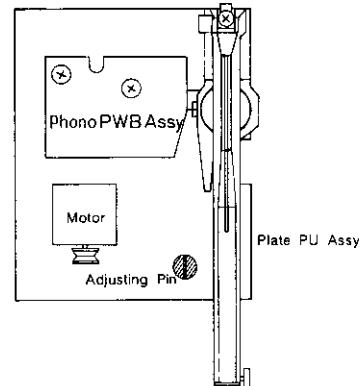

Figure 27
1. Remove the Cabinet top according to DISASSEMBLY INSTRUCTIONS (B) (page 3).
5. Turn the adjusting pin described in Fig. 27 so that the stylus set-down position will be counted between 15 and 17 points.